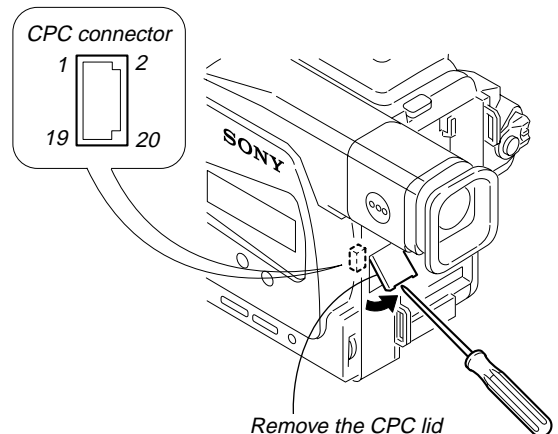

Fig. 5-1-3.
- 2) Connect the adjustment remote commander to CN713 of VC-251 board or CPC connector of FP-262 flexible via CPC jig for BX/BK (J-6082-521-A). To operate the adjustment remote commander, connect the AC power adapter to the DC IN jack of CPC jig for BX/BK, or connect the L series Info-LITHIUM battery to the battery terminal of CPC jig for BX/BK. (Fig. 5-1-3.)